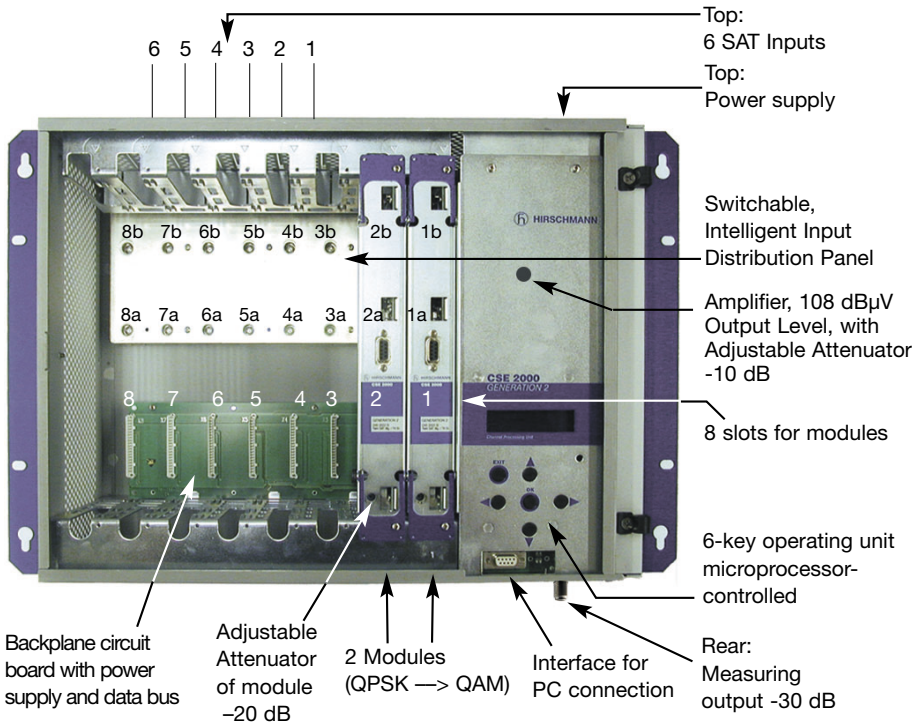

Fig. 1: Interior of the Base Unit with 2 Modules inserted
- ▶ The input distribution panel has six Sat inputs and 16 Sat outputs. It provides two Sat outputs for each module slot, see Fig. 1. Single modules, e.g. QPSK → QAM modules, only use the Sat output in the lower a-row. Twin modules, e.g. modules for analogue TV, also use the b-row, which is above the a-row. Each twin module is, therefore, able to process two independent channels.